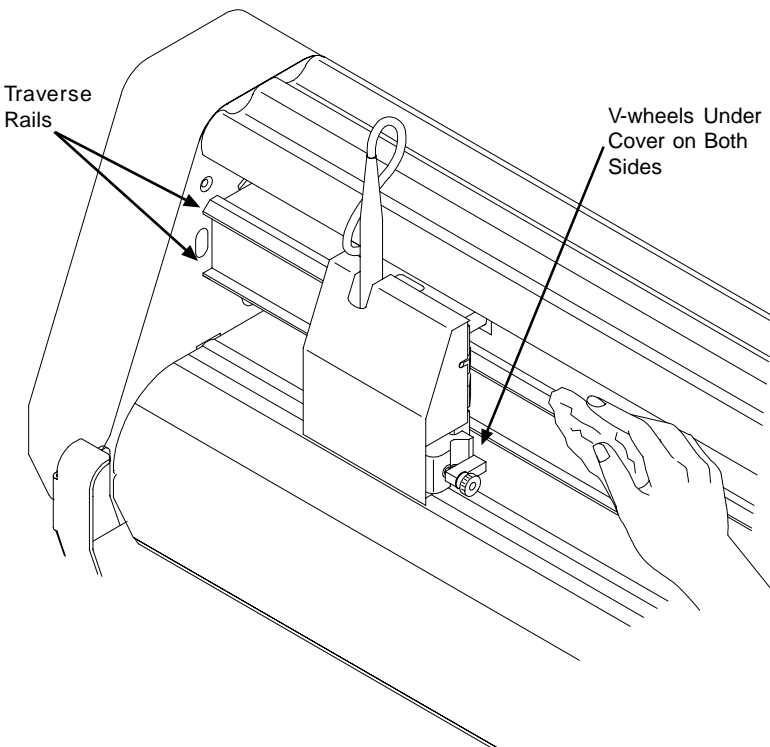

Figure 28. Cleaning the traverse extrusion and carriage V-wheels.
3. Clean the lower carriage v-wheels by holding an isopropyl alcohol dampened lint-free cloth against a v-wheel while gently sliding the carriage back and forth. See *Figure 28*.